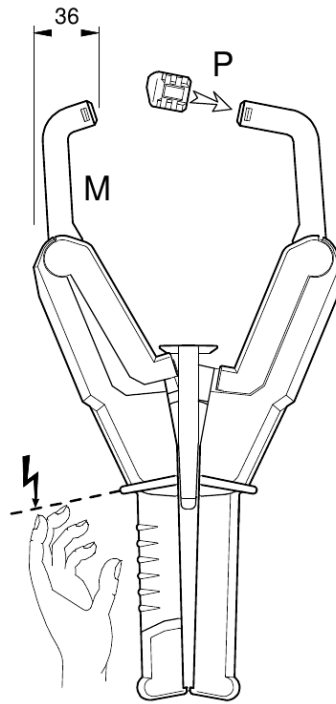

Figure 2.50: Protection against electric shock and short-circuit
- Use safety cover 'P' Figure 2.50 [→48] for protection against short-circuits during clamping!